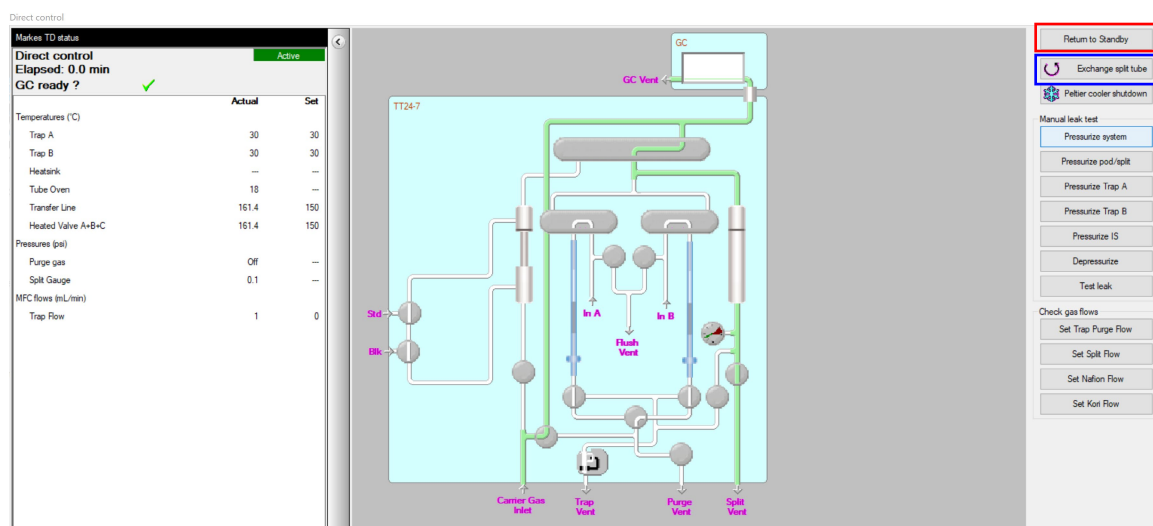

Figure 1: 'Return to Standby' and 'Exchange Split Tube' options.
- Stop any running methods, open direct control and set the instrument to standby (Figure 1, highlighted in red).
- Select the 'Exchange Split Tube' option (Figure 1, highlighted in blue).